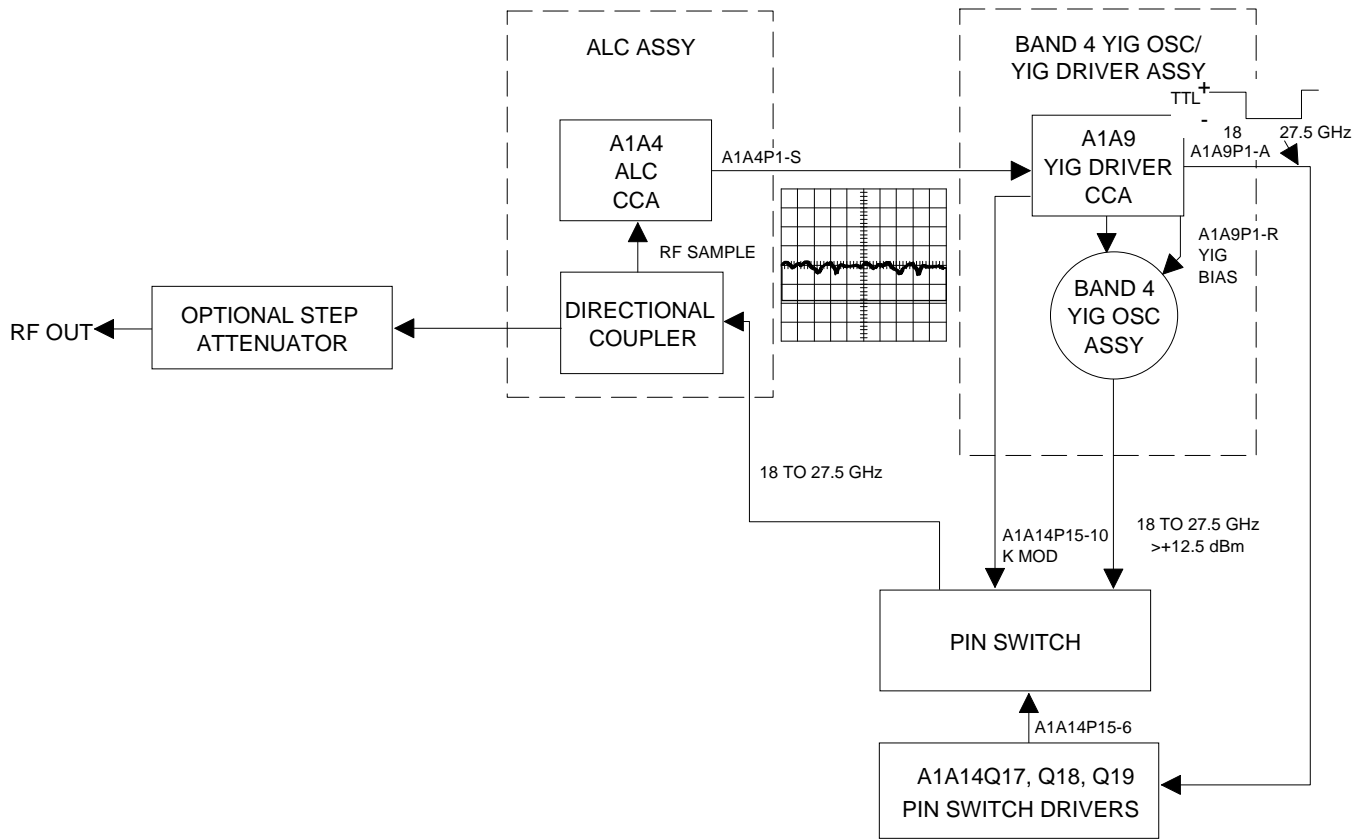

Figure 3-3. Band 4 ALC Troubleshooting Diagram
- Refer to Figure 3-3 for a troubleshooting diagram.